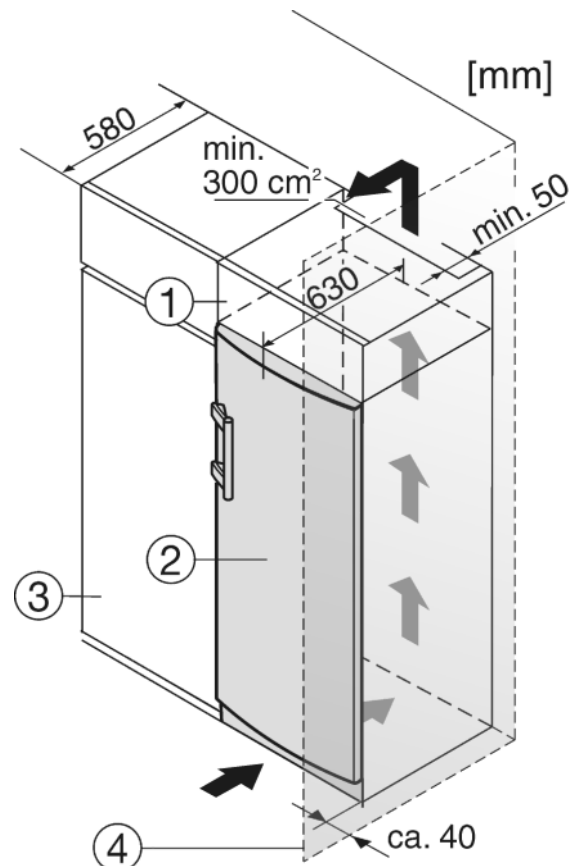

Fig. 11
- (1) Stack cabinet
- (2) Appliance
- (3) Kitchen cabinet
- (4) Wall
The appliance can be built into kitchen units. A top cupboard Fig. 11 (2) can be added above the appliance in order to bring the appliance Fig. 11 (1) up to the height of the fitted kitchen units.
When retrofitting with kitchen cabinets (max. depth 580 mm) the appliance can be installed directly next to the cabinet Fig. 11 (3). The appliance door projects 34 mm from the front of the kitchen cabinet at the side and 50 mm at the centre of the appliance. This is so that it can be opened and closed easily.
If the appliance is installed with the hinges next to a wall Fig. 11 (4), the distance between appliance and wall has to be at least 40 mm. This corresponds to the projection of the handle when the door is open.